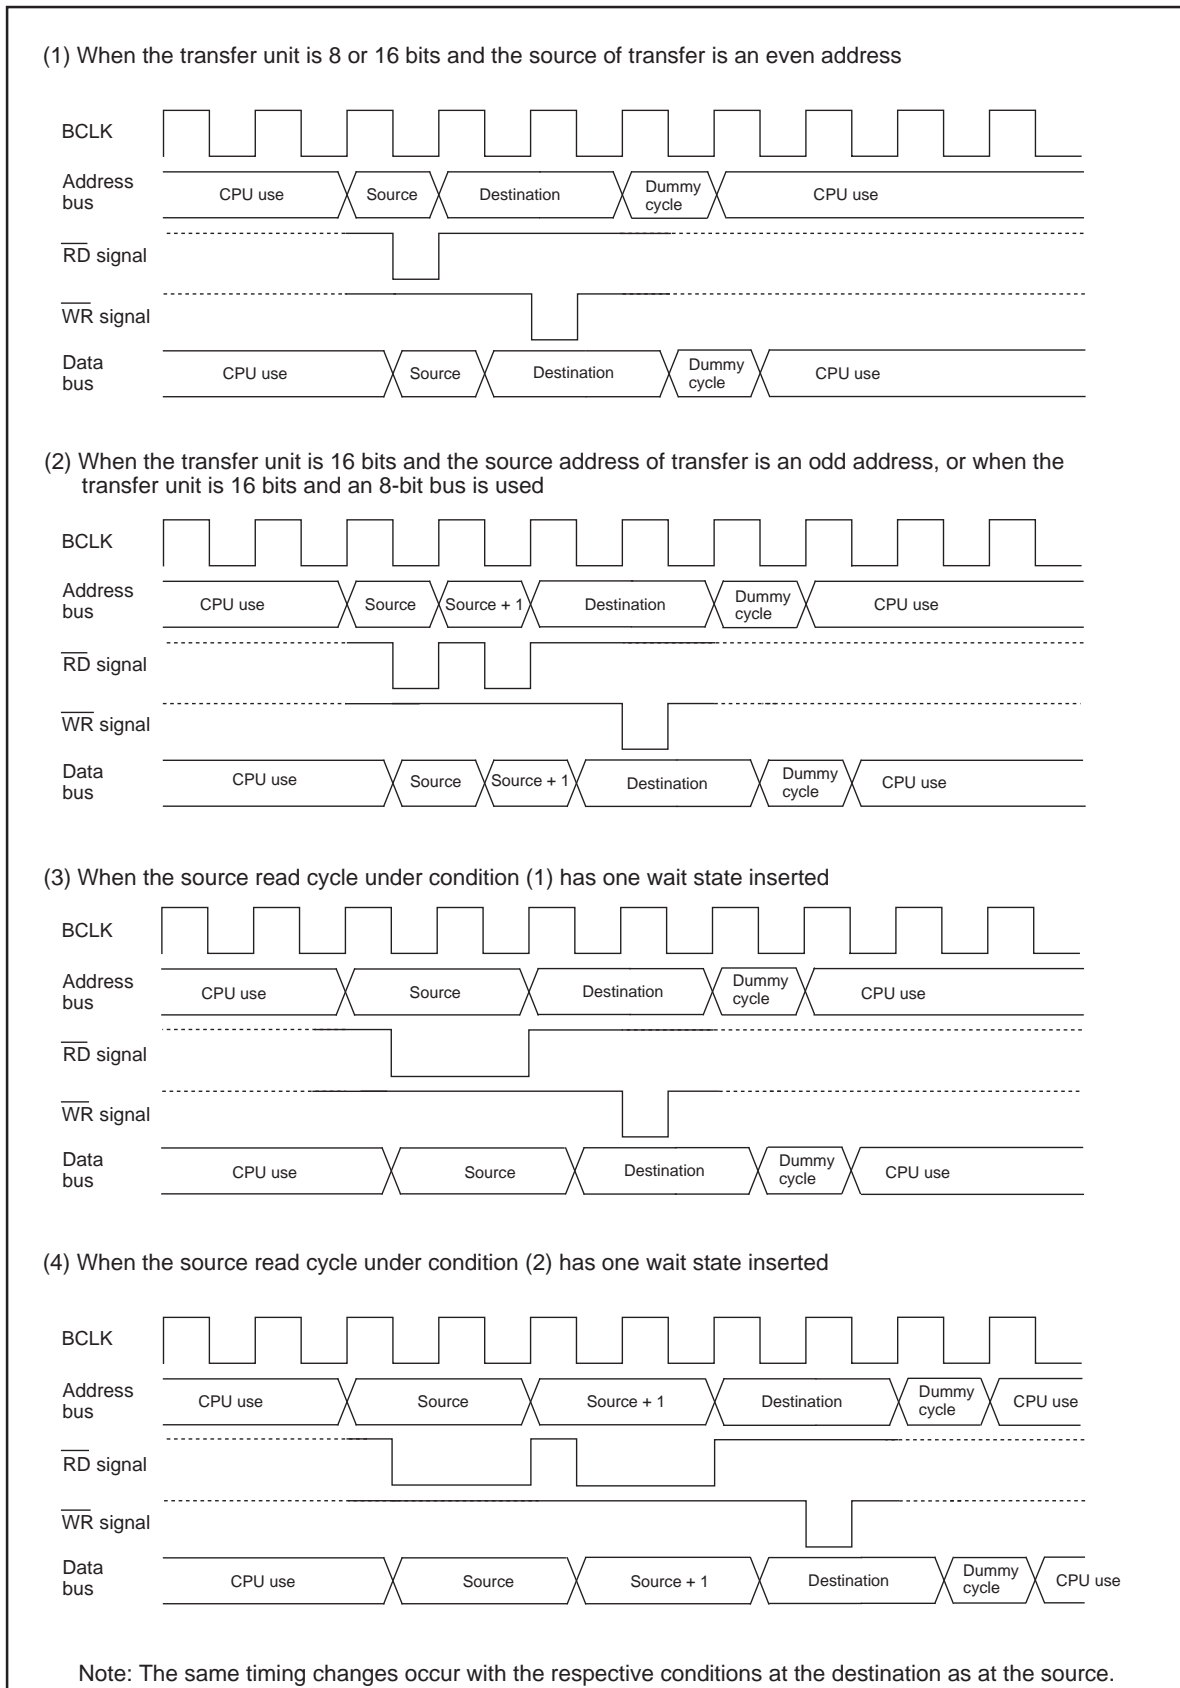

Figure 2.9.5. Transfer Cycles for Source Read
Figure 2.9.5 shows the example of the cycles for a source read. For convenience, the destination write cycle is shown as one cycle and the source read cycles for the different conditions are shown. In reality, the destination write cycle is subject to the same conditions as the source read cycle, with the transfer cycle changing accordingly. When calculating transfer cycles, take into consideration each condition for the source read and the destination write cycle, respectively. For example, when data is transferred in 16 bit units using an 8-bit bus ((2) in Figure 2.9.5), two source read bus cycles and two destination write bus cycles are required.